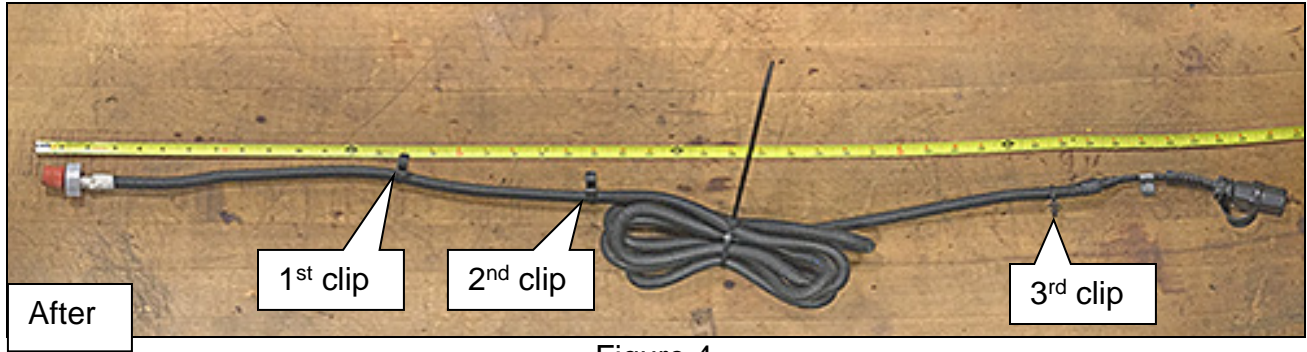

Figure 4
- d. Slide the three (3) remaining harness clips to the locations shown in Figures 4, 5 and 6.